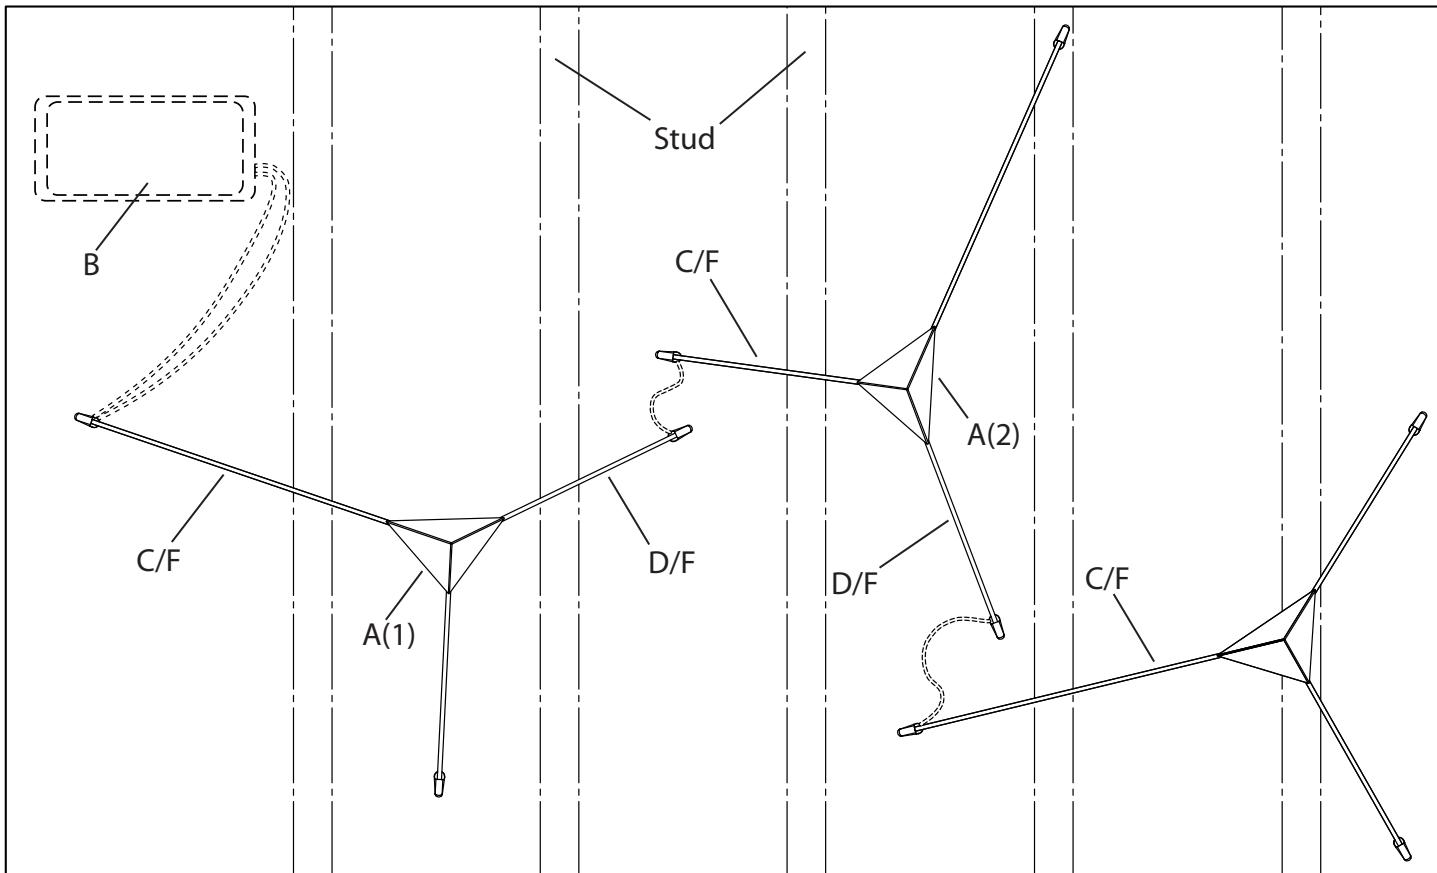

Fig. 1
2. Layout the location(s) where the fixtures (A) and remote driver (B) are to be installed and identify which arm(s) is to be used as input(s) (C) and which arm(s) are to be used as output(s) (D). Cut off unused cables at the fixture and discard (Fig. 1-2). **Note:** Each of the three arms are wired to the fixture with low-voltage red and black cables (E). Any one cable pair can be used as the input and the others may be used as an output to connect another Abstract fixture up to the maximum wattage of your LED driver. When connecting multiple fixtures to another, it is recommended to install connecting arms at a location that is between the same two studs (Fig. 1).